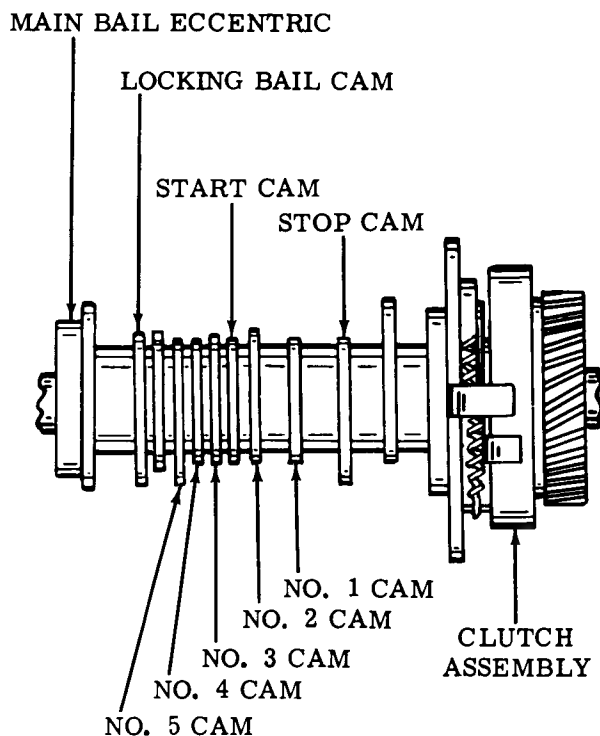

Figure 14 - Clutch Camshaft Assembly
4.09 The shaft continues its rotation until the cam for the first pulse (Figure 14) cams its transfer lever. Depending on the position of
4.10 The action of the cams for the second, third, fourth, and fifth pulses follow the action of the first pulse in order and repeat the same action as described for the first pulse (Figure 14).